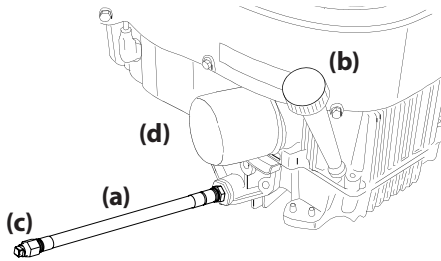

Figure 40
1. Locate the oil drain hose (a) on the side of the engine. See Figure 40.
2. Place an appropriate oil collection container with at least a 2.5 quart (2.37 liter) capacity below the opening of the oil drain hose, to collect the used oil. Remove the oil fill cap/dipstick (b) from the oil fill tube. See Figure 40.
3. While holding the free end of the oil drain hose over the oil collection container, unscrew the square head hose plug (c) from the end of the oil drain hose. See Figure 40. Drain the engine oil into the collection container.
5. Remove the oil filter (d) and drain into the collection container. See Figure 40.
6. Replace the oil filter (d), and refill the engine with new oil as instructed in the Engine Operator's Manual. See Figure 40.